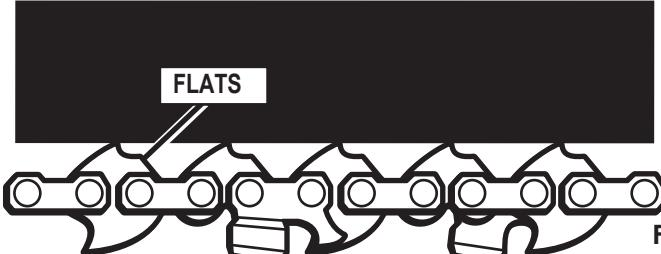

Fig. 15
CHAIN TENSION (See Figures 15 - 16.)
- Chain must be retensioned whenever the flats on the drive links hang out of the bar groove as shown in Fig. 15.